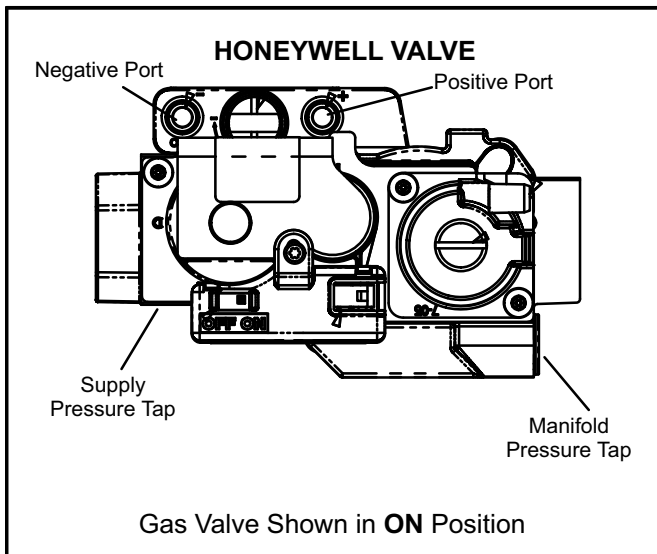

FIGURE 1
- 2 - Remove the threaded plug from the outlet side of the gas valve and install a field-provided barbed fitting. Connect measuring device positive "+" to barbed fitting to measure manifold pressure. See figure 1 for manifold location.